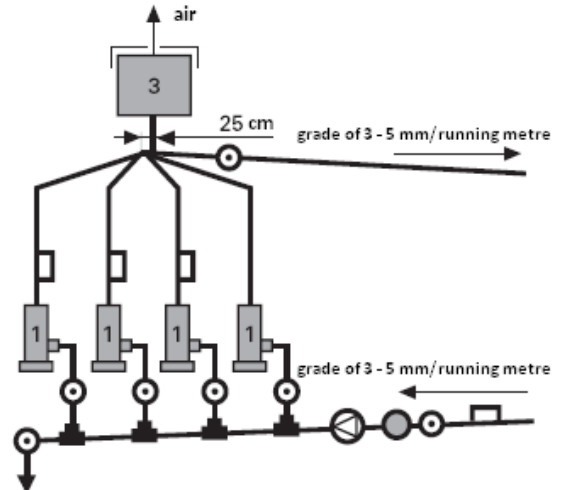

Fig. 2 Parallel connection.
- It is possible to increase the power of the heating system repeatedly by using parallel connection of number of the electric boilers. For example, the connection of 8 boilers the power of which is equal to 25 kW increases the total power of the heating system to 200 kW (Fig. 2).